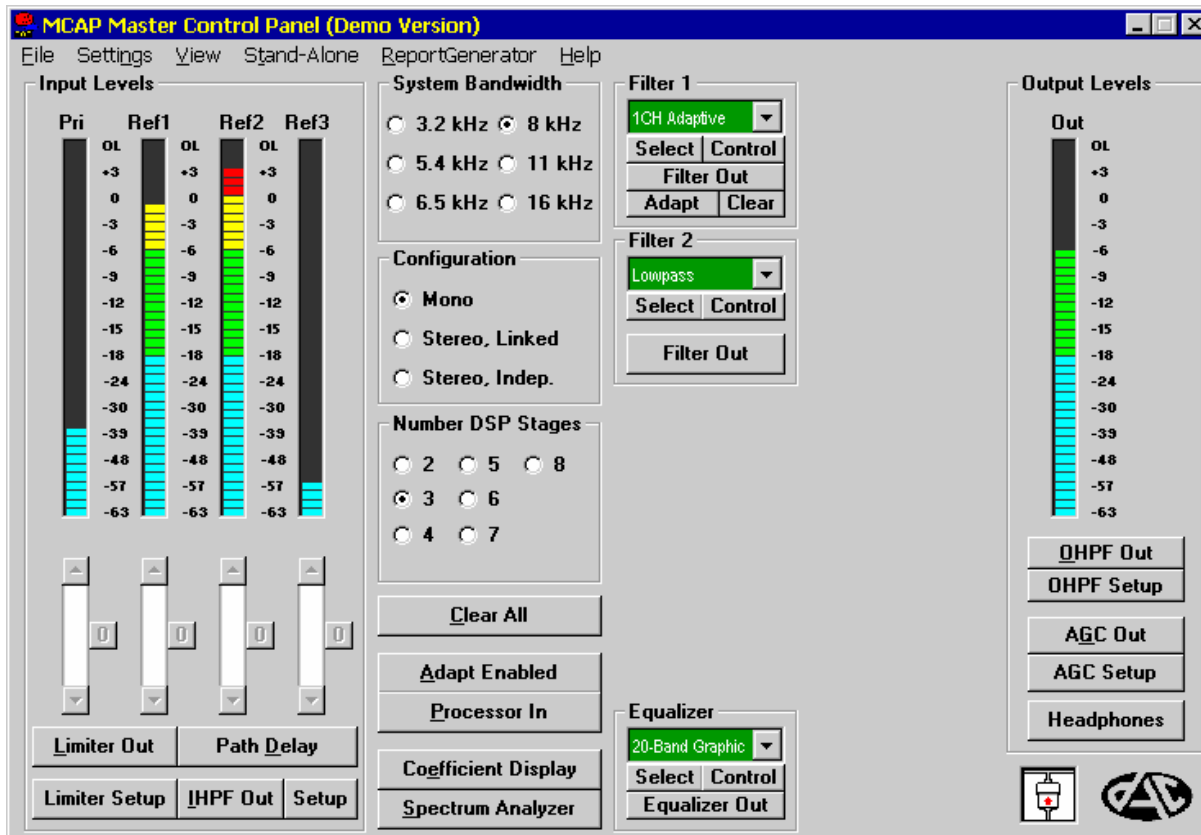

Figure 3-4 Tutorial Master Control Panel
1. With the installation procedure in Section 2.2 completed, run the MCAP Master Control program by double clicking the MCAP Master Control icon in Microsoft Windows. A window similar to Figure 3-4 will appear:
2. Use the mouse* to set up the **Input HPF In/Out**, **Limiter In/Out**, **Output HPF In/Out**, **AGC In/Out**, **System Bandwidth**, **Configuration**, **Number DSP Stages**, **Adapt Enabled/Disabled**, and **Processor In/Out** buttons as they are shown in Figure 3-4. Do not set up the Filter blocks and Equalizer blocks at this time.